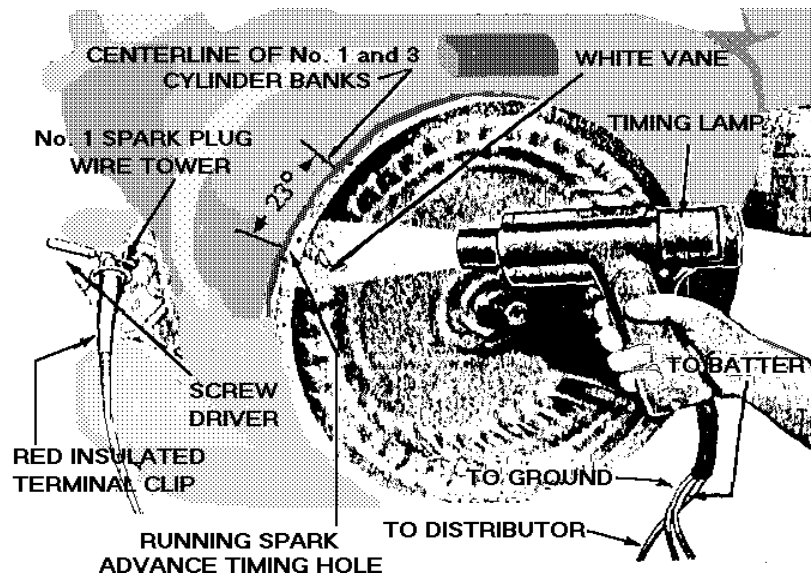

FIGURE 3, TIMING ENGINE WITH A NEON LIGHT
Step 5: Check the timing with a neon timing light (Figure 3).